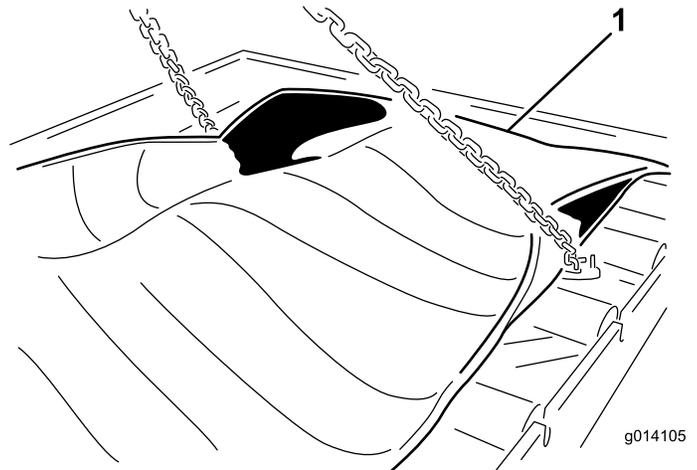

Figure 48
23. Remove the (24) bolts to release the cartridge (Figure 48).